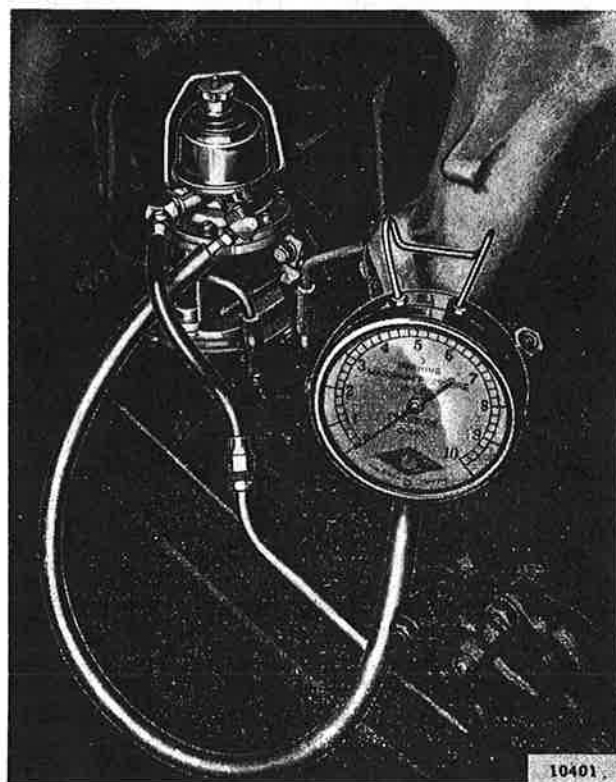

FIG. 28—CHECKING FUEL PUMP PRESSURE
a. Fuel pump pressure is important, for low pressure will seriously affect engine operation and high pressure will cause excessive fuel consumption and possibly flood the carburetor. Should there be any doubt of normal operation, check the pressure with a gauge as shown in Fig. 28.